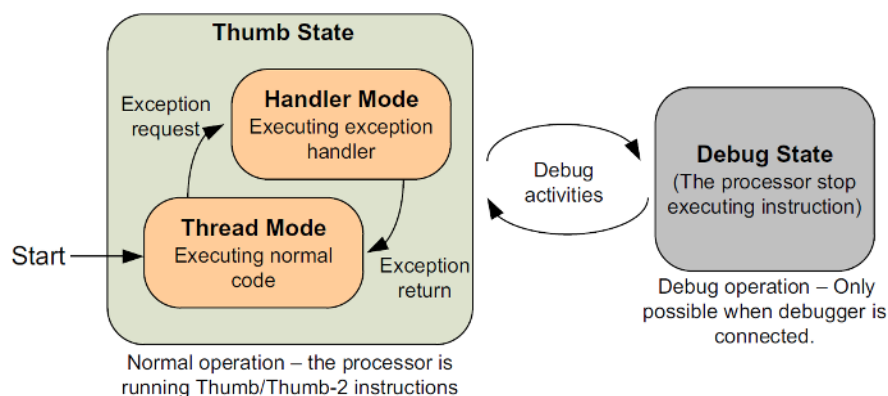

Figure 5: Processor modes and states in the Cortex-M0 processor
i. The Cortex-M0 processor has two operation modes (Thread mode or the Handler mode) and two states (Thumb and Debug stated) as in the Figure 5.